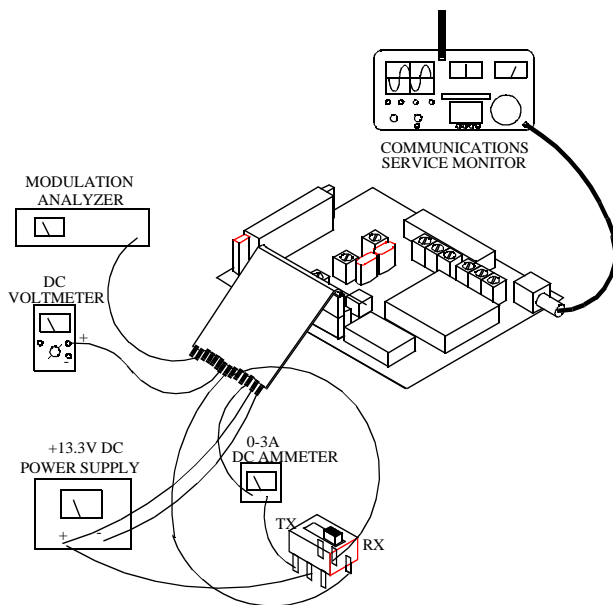

Figure 6-3 RECEIVER TEST SETUP
1. Connect the test setup shown in Figure 6-3. Adjust the power supply for +13.3V DC.